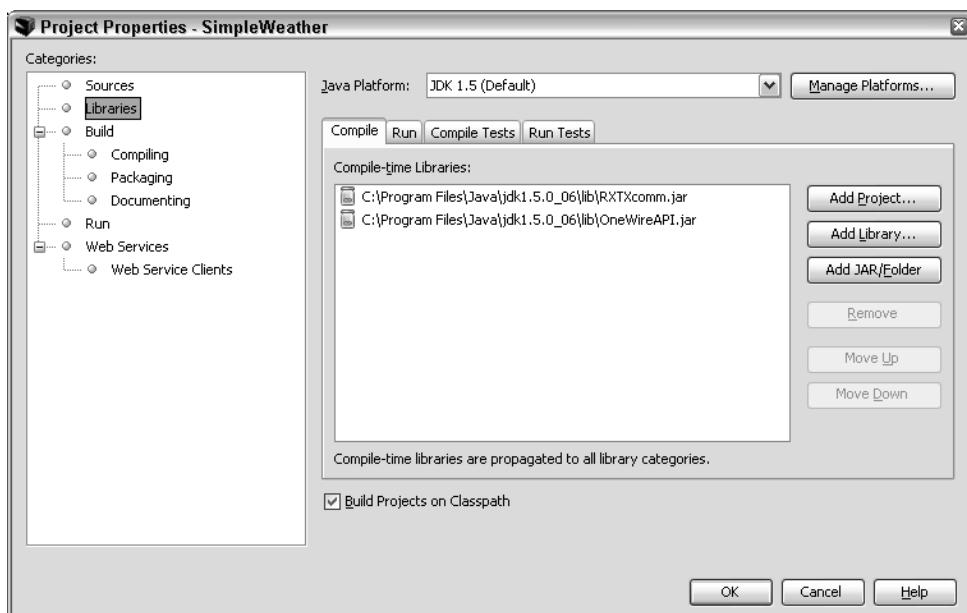

FIGURE 4-13: Project Properties with Libraries added.
7. You have just added the two libraries to the project. Your screen should look similar to Figure 4-13.